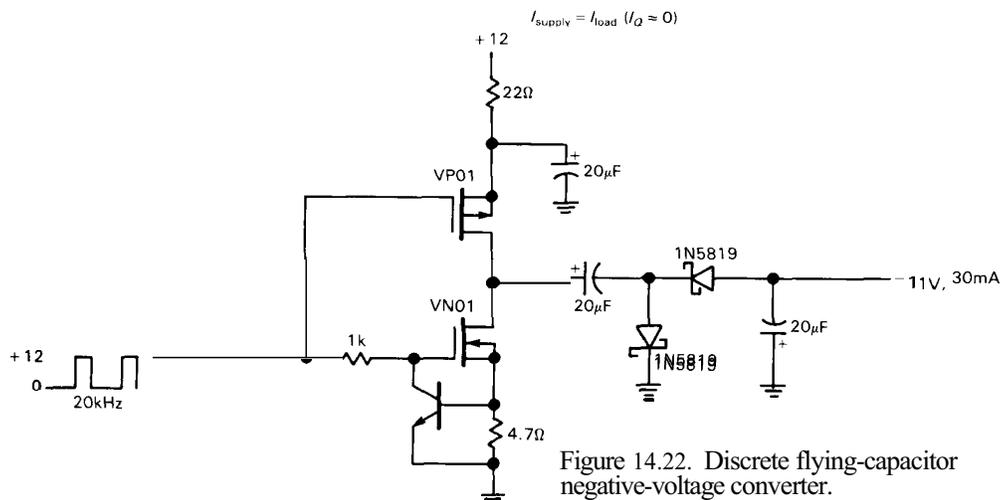

Figure 14.22. Discrete flying-capacitor negative-voltage converter.
**2.** To generate a larger negative voltage, you can use discrete MOS transistors in a flying-capacitor circuit (Fig. 14.22). The particular example shown idles at a few microamps and generates up to 30mA.